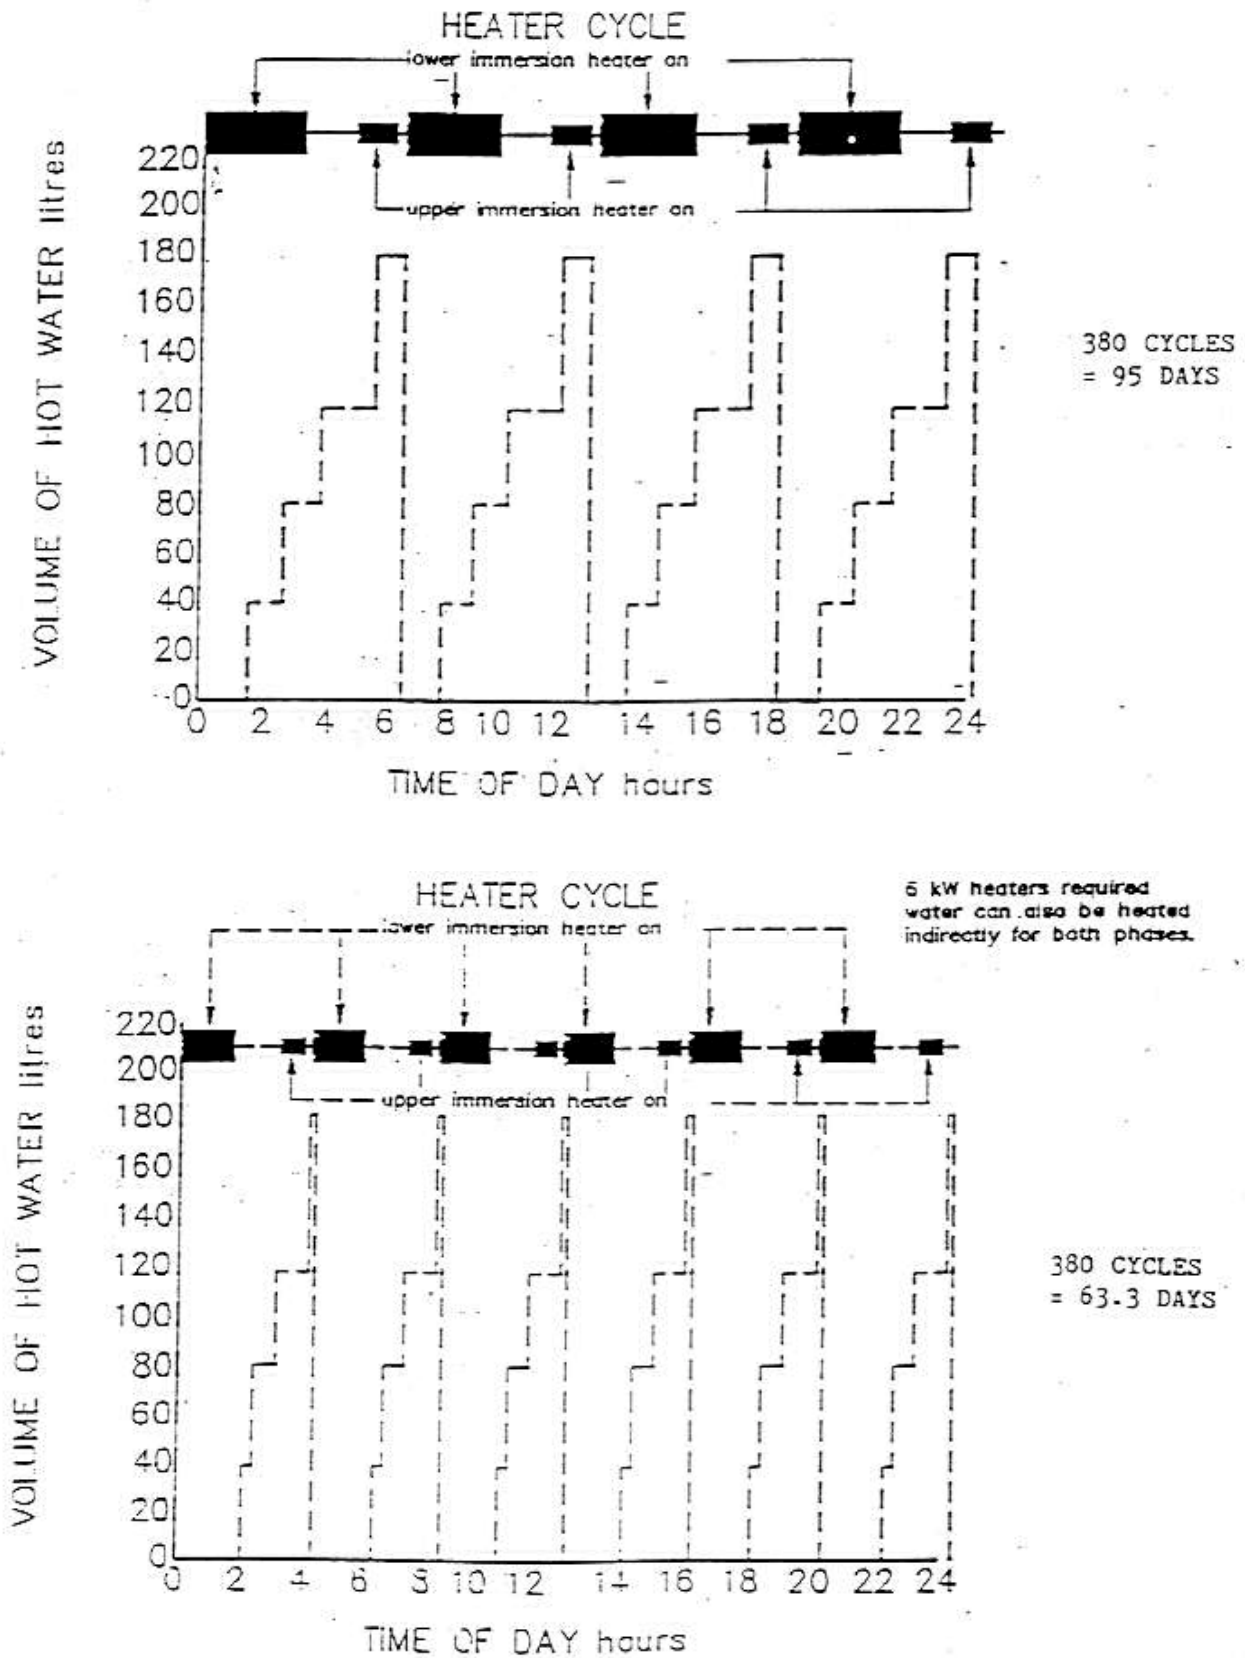

Figure 2 – Heater cycle and draw-off profile
- (5) Consider it reasonable to condense this simplified draw-off pattern, to that shown in Table 1, Figures 2 and 3.